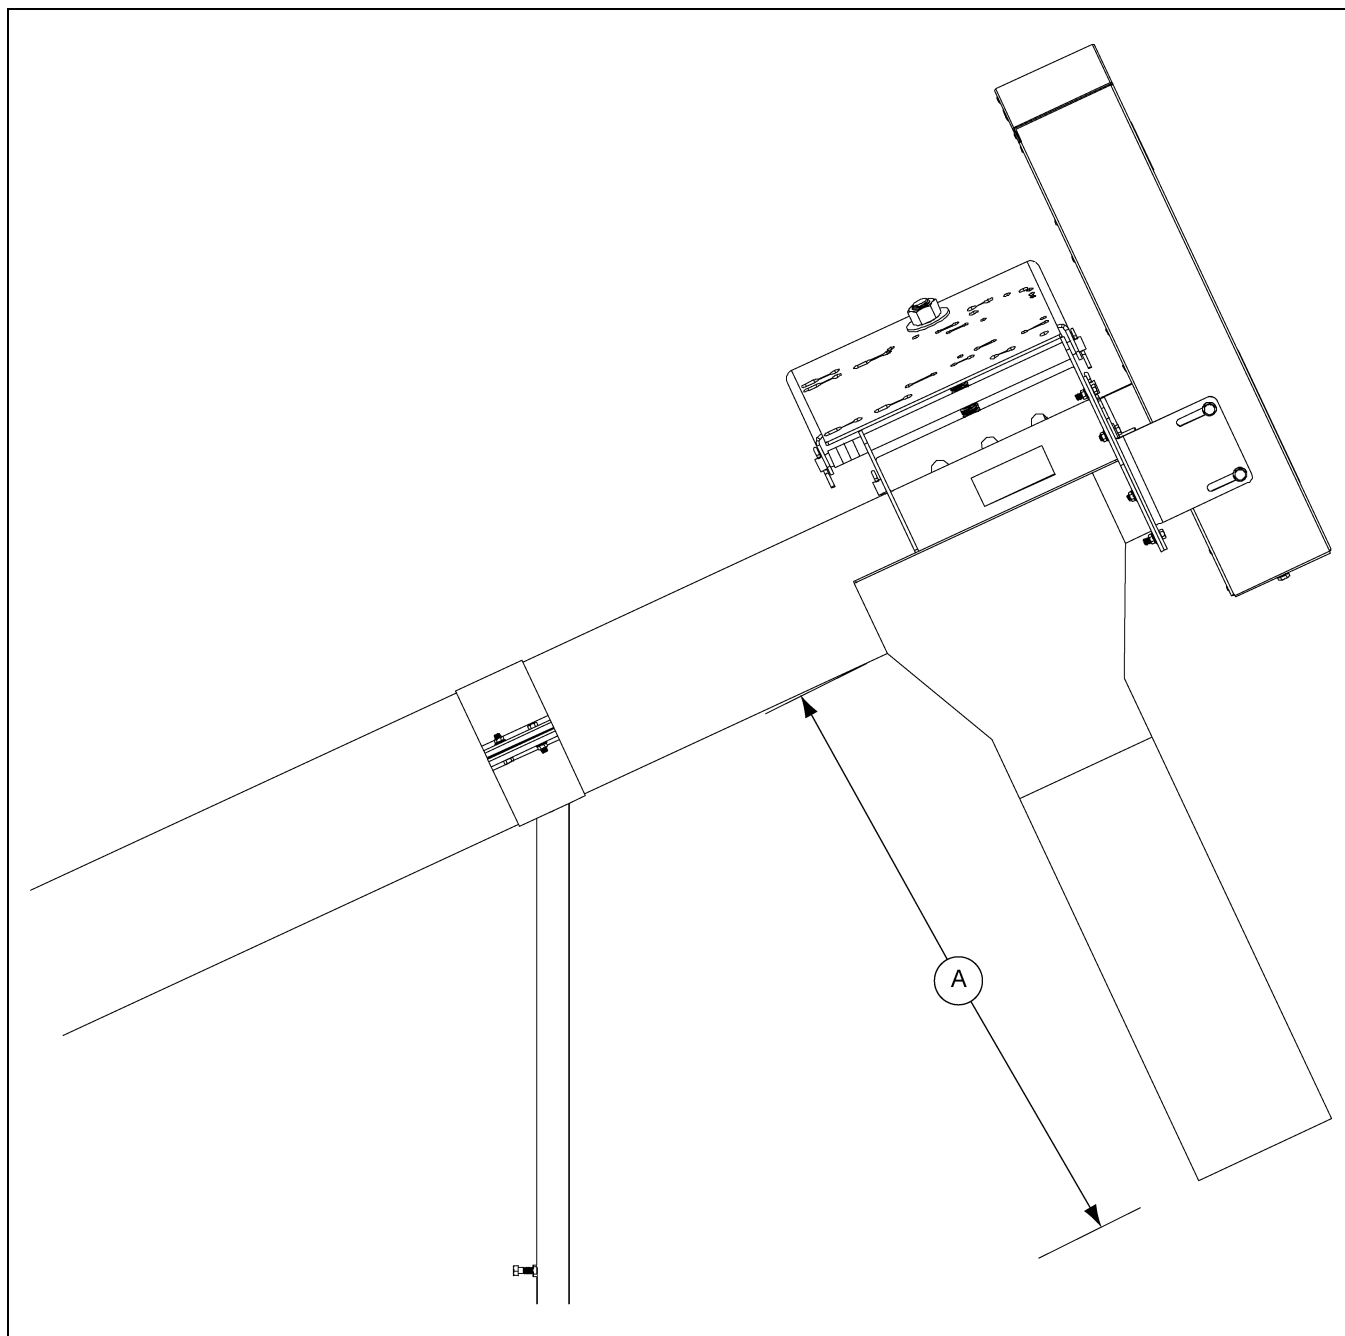

Figure 4Z
4. EITHER fit the length of steel grain tube supplied with the outlet spout and attach with nuts and bolts or weld to the discharge spout. (See Figure 4Z.)